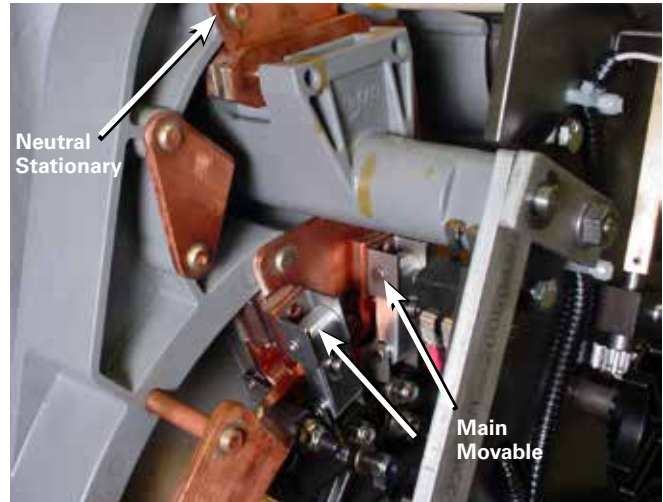

Figure 26. Neutral stationary contact.
- A. Main movable contacts are located on the neutral stationary contact, which is located at the 11 o'clock position and under the reversing switch movable contact assembly. See Figure 26.